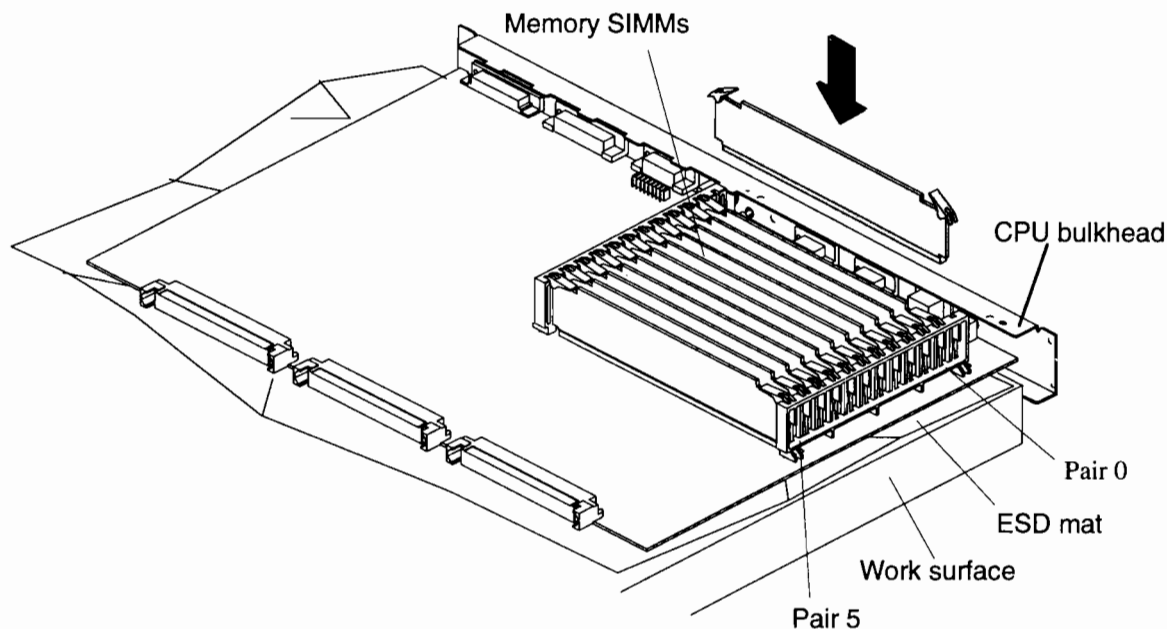

Figure B-8. Installing Memory Boards
3. Install the new SIMM card pairs into the next adjacent empty connector pairs on the system card, as shown in Figure B-8. For example, if slots J100/J101 contain the only pair of memory boards, you would install the next pair of memory boards into slots J102/J103. Slots are numbered from right to left across the system card.